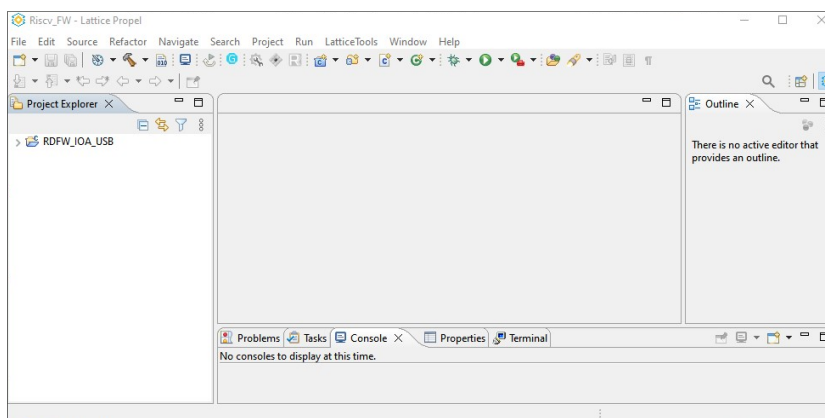

Figure 5.2. Propel SDK Project in Lattice Propel
3. The Propel SDK project is opened with **RDFW\_IOA\_USB** project as shown in Figure 5.2.